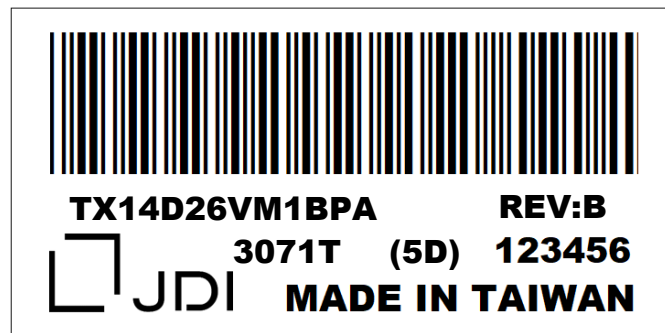

Fig. 14.1
1) The lot mark is showing in Fig.14.1. First 4 digits are used to represent production lot, T represented made in Taiwan, and the last 6 digits are the serial number.
4) The location of the lot mark is on the back of the display shown in Fig. 14.1